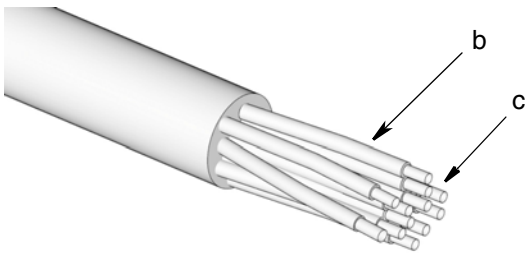

FIG. 2
2. Strip each wire (b) to be crimped so approximately 0.08 - 0.012 inches (2- 3 mm) of bare wire (c) is showing as shown in FIG. 2.
4. (See FIG. 2) Insert stripped end (c) of wire (b) into pin. The edge of the insulation should be about 0.05 - 0.09 inches (1.2- 2.2 mm) into the pin.